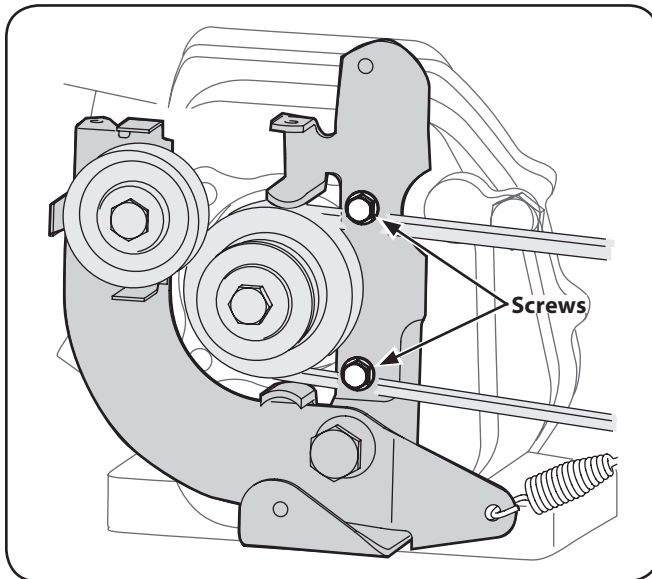

Figure 5-5
8. The forward idler belt will not clear the belt keepers near the engine pulley. You must remove the reverse idler bracket to allow the belt to move off of the engine pulley. Remove the two securing screws and move the bracket toward the transmission pulley. Retain the screws for reassembly. See Figure 5-5.